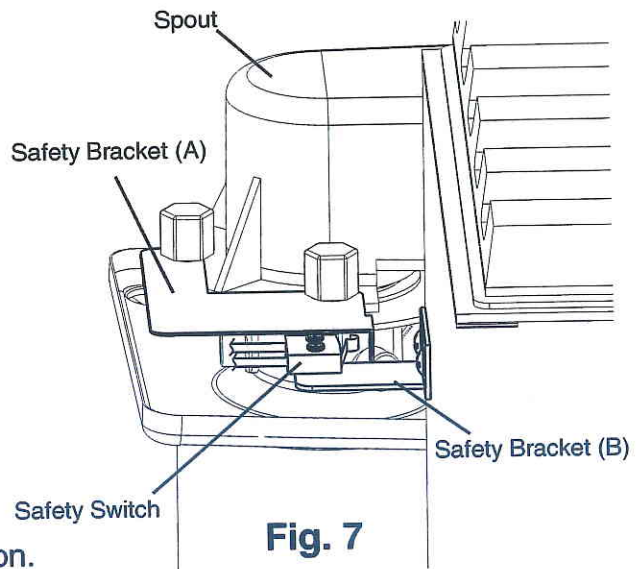

Fig. 7
12) Replace all parts in their correct positions. Make sure safety bracket (A) is in position as illustrated in Fig. 7.
- 6) Remove the thumbscrews attaching spout (B) to the bin, then remove spout (B).
- 7) Remove the thumbscrews attaching spout (A) and safety bracket (A) to the evaporator assembly, then remove spout (A) and safety bracket (A).
- 10) Replace all parts in their correct positions. Make sure safety bracket (A) is in position as illustrated in Fig. 7.